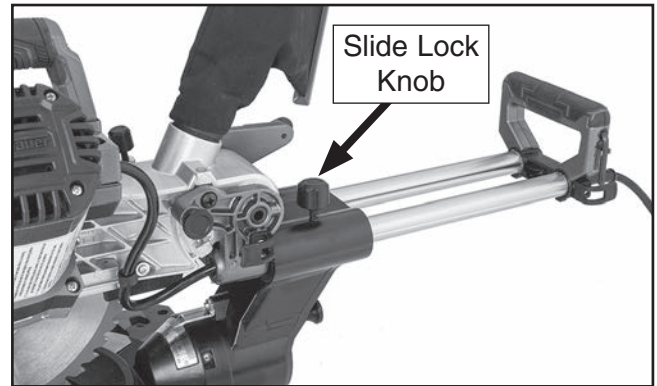

Figure 38. Slide lock knob location.
3. Loosen slide lock knob (see **Figure 38**) to allow cutting head to slide freely.